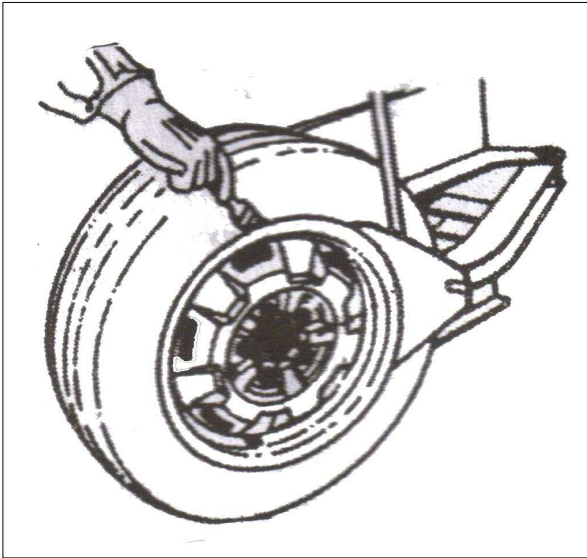

Fig. 18
- Place the tyre between the bead breaker blade and rubber pad, and place the blade on the bead 2 cm from the rim, step on the pedal (Fig. 2-10) to separate the bead from the rim. (Fig. 18) The venthole on the tyre should not near to the bead breaker blade during the operation.